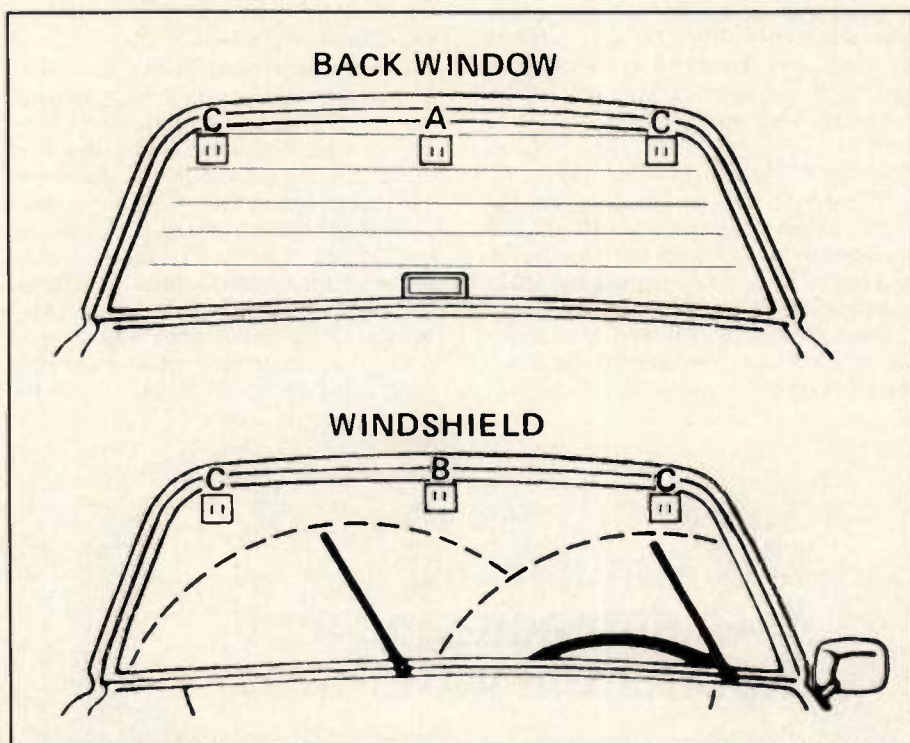

Figure 1. Typical mounting locations for 'on-glass' antennas.
The most common mounting location (Figure 1) is the top center of the rear window (A) for rear-mounted radios, followed by the top center of the windshield, above the rear view mirror (B) for front-mounted radios. Better access for car wash removal may be gained by mounting it in the top corner of either window (C). Care must be taken to ensure that most of the whip (from the "curly-Q" up) extends above the roof line and that no defogger wires or similar devices pass through the mounting base area.